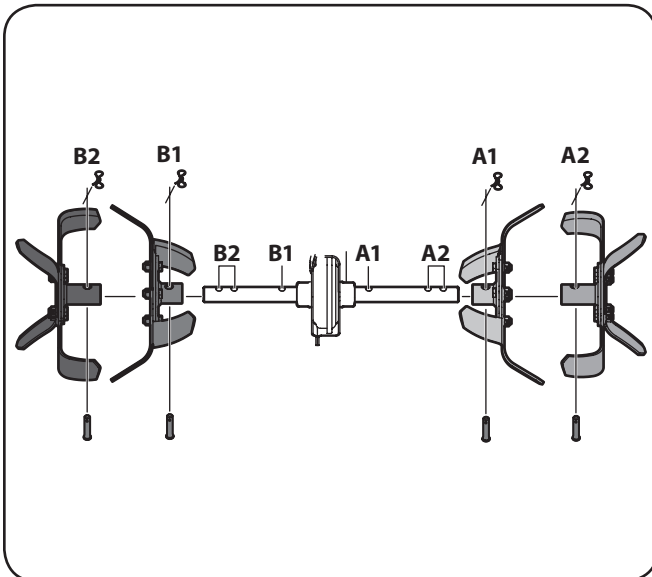

Figure 3-1
2. Using four clevis pins and four cotter pins from the manual bag, install the tines onto the tine shaft inner tines first, then the outer tines and exactly as shown in Figure 3-1.